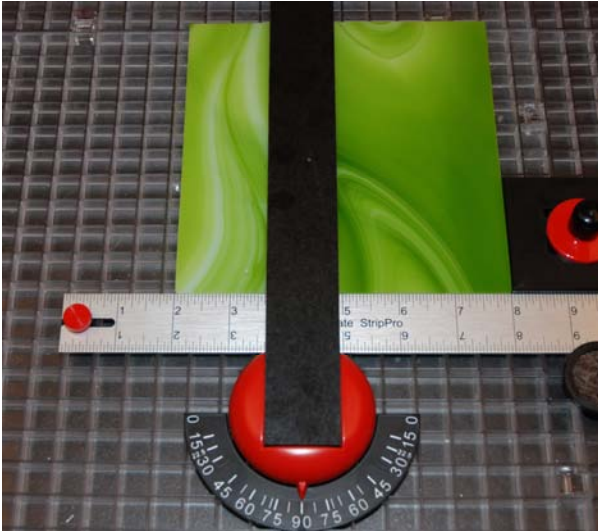

figure 1
1. Cut a 3 inch strip of glass. (figure 1)